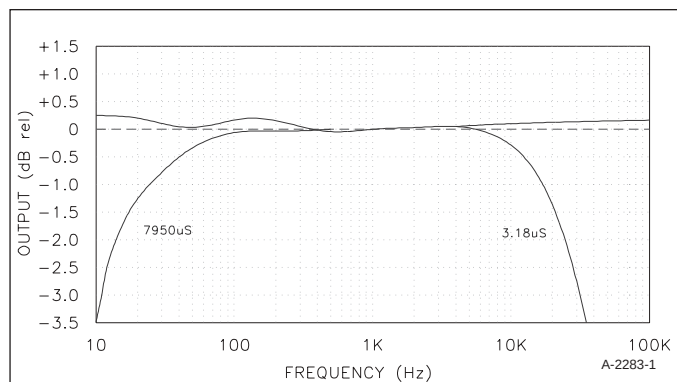

FIGURE 1: RIAA equalization error.
Figure 1 shows the relative RIAA equalization error (solid line), where 1kHz is the 0dB point. Gain at 1kHz, 10mV MM input, was exactly 40dB. Setting the DIP switches at the highest (MC) setting produced 80dB gain. The RIAA accuracy was within +0.2/-0.04dB